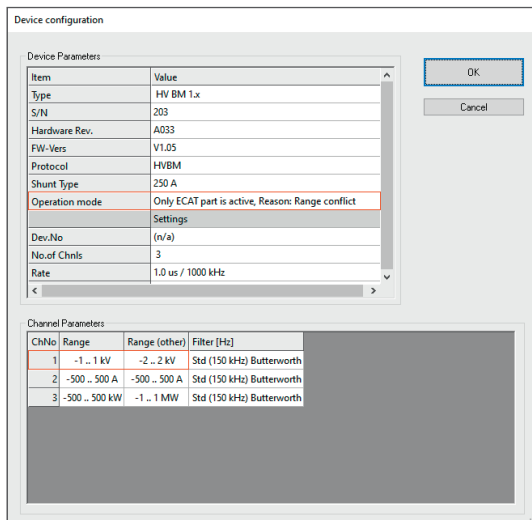

Fig. 6-33: Dialog **Device configuration**, differing measurement ranges for CAN and ECAT
This is indicated on the module by **measurement channel LED indicators permanently lit in red**. This error is displayed in the **Operation mode** row of the **Device configuration** dialog (see Fig. 6-33).
- ⇒ The dialog **Device configuration** opens (Fig. 6-33).